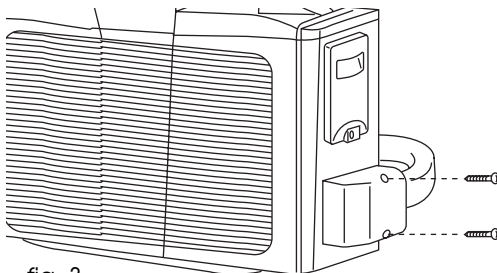

fig. 3
- 1) Undo the two screws on the cover protecting the external unit couplings. (Fig. 3)